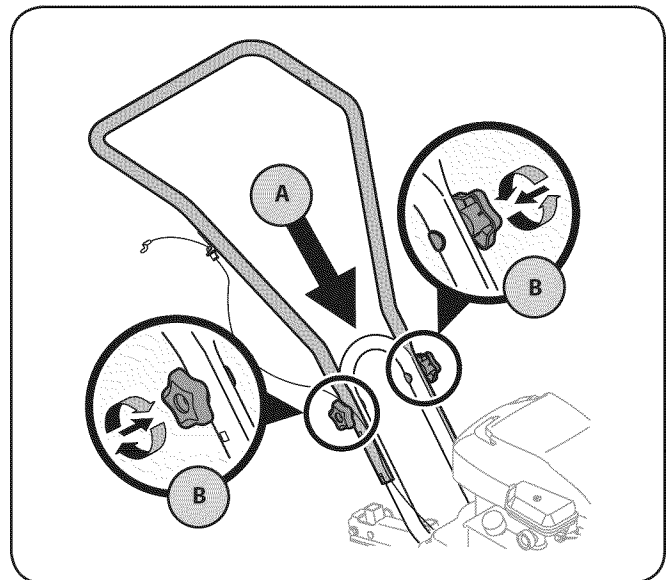

Figure 1-2
2. Position the upper handle onto the lower handle, Step A in Figure 1-2. Align the holes on the lower handle with the holes on the upper handle. Choose the upper or lower holes depending on the desired handle height.
3. Insert carriage bolts through the holes and secure with the star knobs, Step B in Figure 1-2. Make certain the carriage bolts are seated securely into one of the two positions provided.